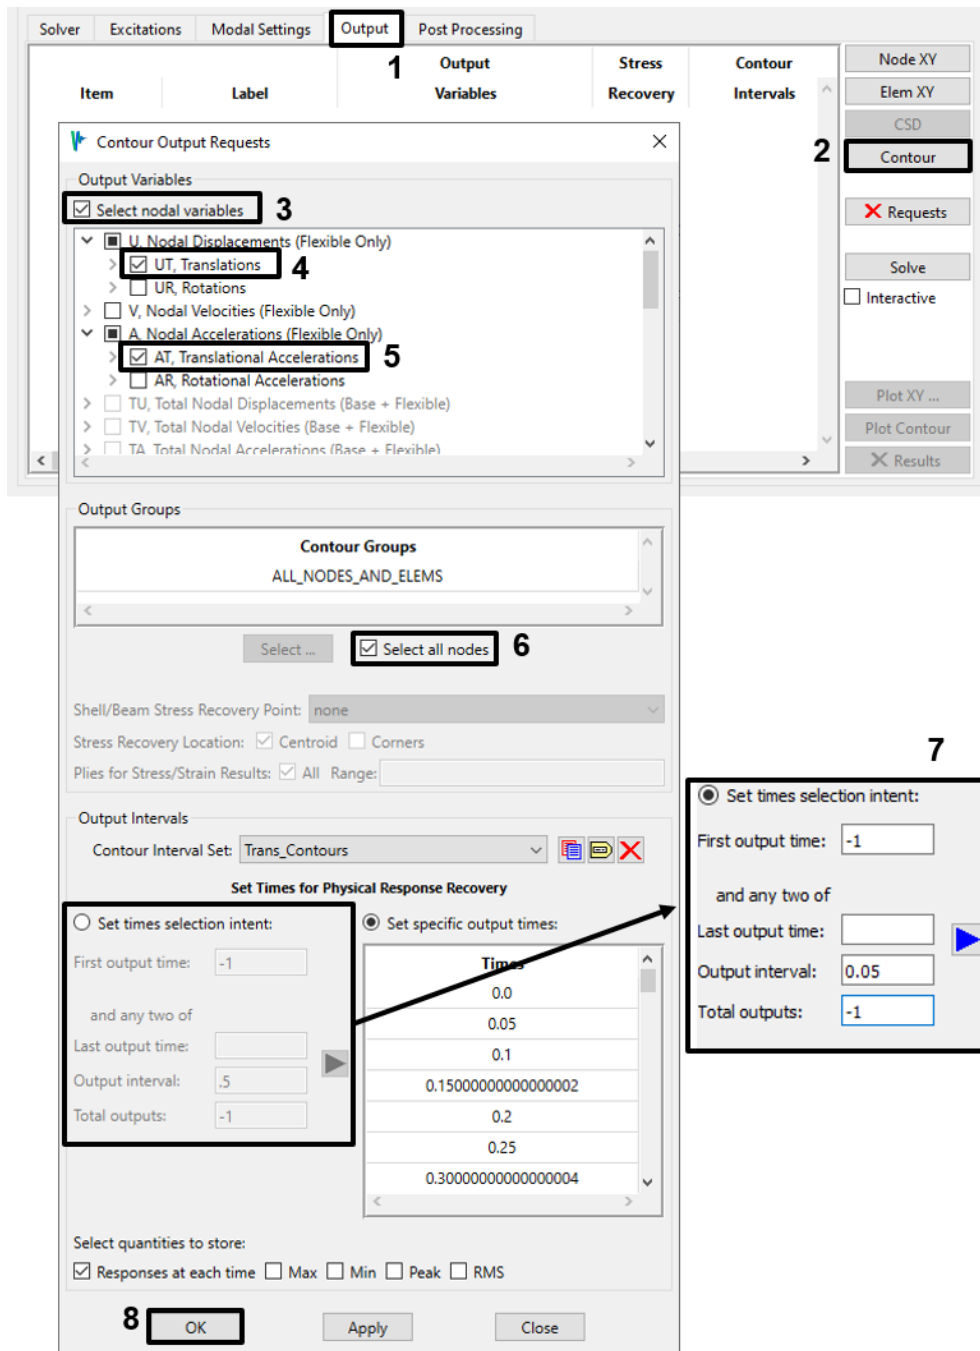

Figure 4-98. Request displacement and acceleration contours for all nodes at 0.05 second intervals.
- On the Output tab, create a contour request for translational displacements and accelerations (UT and AT) for all nodes in the model. Request output at 0.05 second intervals to span the defined start and end times of the event (Figure 4-98); for a 4.0 second time span, this will produce 81 output time steps. Note that Vibrata will change your definition to its preferred form (inset) when you click **Apply** or **OK**; this will produce the same results as settings you entered. Click **OK** to create the request.